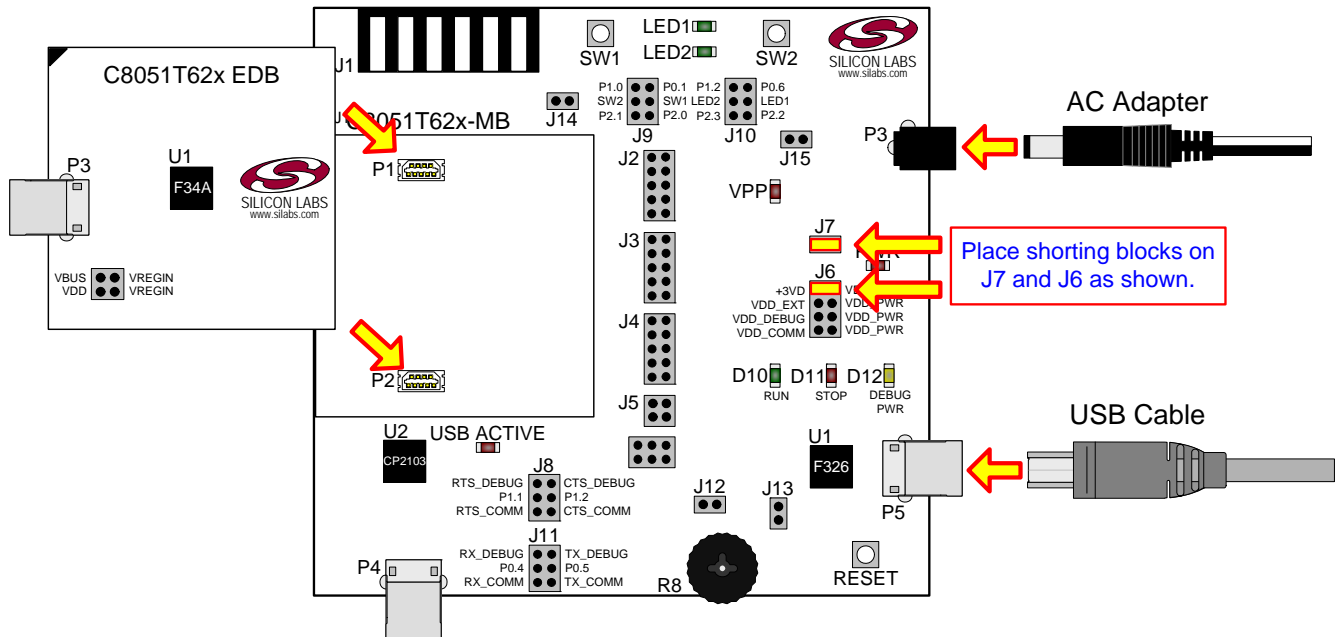

Figure 1. Hardware Setup (Emulation Daughter Board)
See Figure 1 for a diagram of the hardware configuration.
3. Place shorting blocks on J7 and the +3VD-VDD\_PWR jumper pair on J6, as shown in Figure 1.